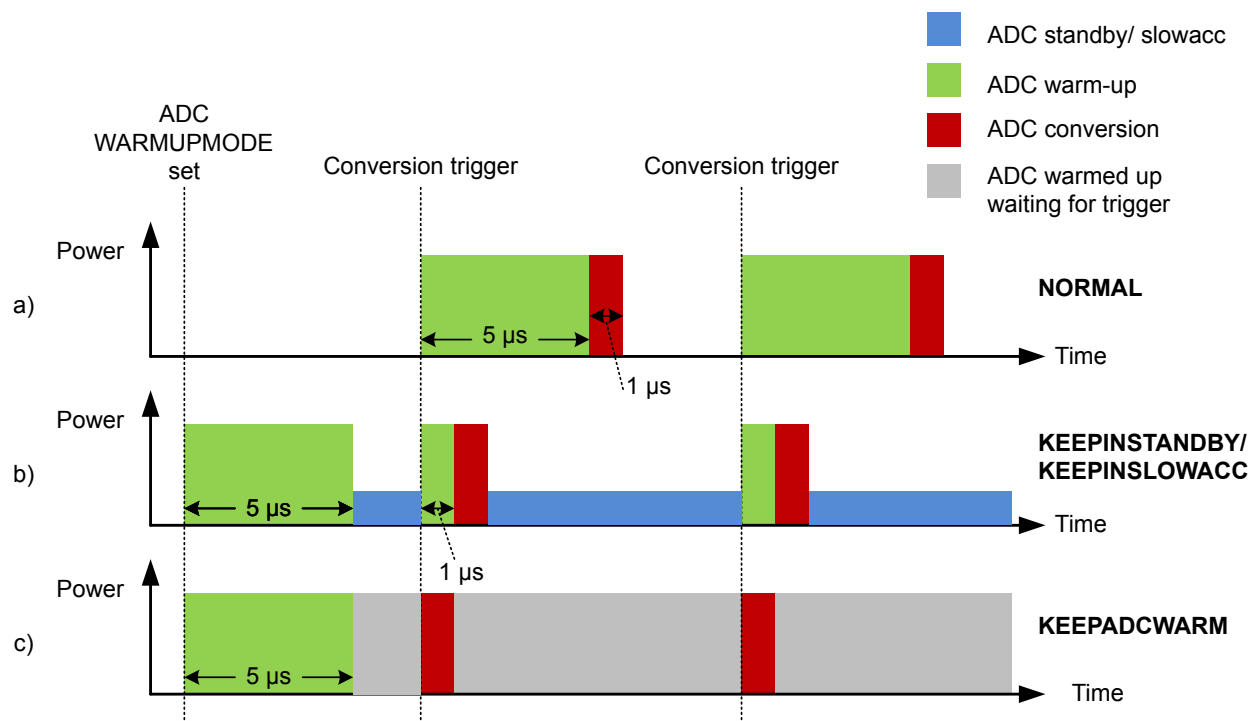

Figure 26.4. ADC Analog Power Consumption With Different WARMUPMODE Settings
Normally, the ADC will be warmed up only when samples are requested and is shut off when there are no more samples waiting. However, if lower latency is needed, configuring the WARMUPMODE field in ADCn_CTRL allows the ADC and/or reference to stay warm between samples, reducing the warm-up time or eliminating it altogether. Figure 26.4 ADC Analog Power Consumption With Different WARMUPMODE Settings on page 849 shows the effects on analog power consumption in scenarios using different WARMUPMODE settings.
- **NORMAL:** This is the lowest power option for general-purpose use and low sampling rates (below 35 ksp/s). The ADC and references are shut off when there are no samples waiting. The ADC does not consume any power when it is shut down. A 5 μ s warmup time will be initiated prior to every conversion. Figure a in Figure 26.4 ADC Analog Power Consumption With Different WARMUPMODE Settings on page 849 shows this mode.
- **KEEPINSTANDBY:** This mode is suitable for infrequent sampling of lower impedance inputs, and is the lowest power option for sampling rates between about 35 and 125 ksp/s. It may also be useful for lower sampling rates where latency is important. The reference selected for scan mode is kept warm, but the ADC is powered down. The ADC will initiate a 1 μ s warmup period before a conversion begins. Because the reference is kept warm, the ADC will consume a small amount of standby current when it is not converting. Figure b in Figure 26.4 ADC Analog Power Consumption With Different WARMUPMODE Settings on page 849 shows this mode.
- **KEEPADCWARM:** This mode provides the lowest latency and allows for maximum sampling rates. The ADC and reference circuitry remain powered on even when conversions are not in progress. Figure c in Figure 26.4 ADC Analog Power Consumption With Different WARMUPMODE Settings on page 849 shows this mode. This mode consumes the most power, but as soon as a trigger event occurs, the acquisition and conversion begin with no warm-up time.